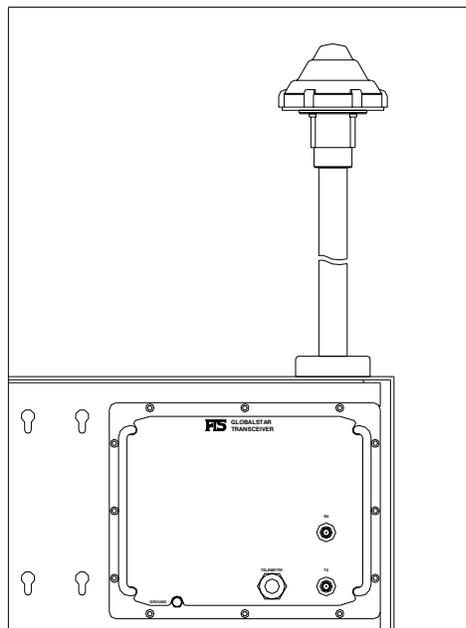

Figure 1. Fixed Site FTS Globalstar Transceiver
Three models of the FTS Globalstar Transceivers are available: Fixed Site (FS), Quick Deploy (QD) and GS-4000. Fixed Site transceivers are housed in a standard FTS keyhole mounting, waterproof module and mount directly in an FTS cabinet. Normally the antenna mounts directly to the enclosure lid; however, to prevent snow from accumulating on the antenna, the antenna can be mounted on top of an optional extension post (see Figure 1).
Perform the following steps to retrofit an existing Fixed Site Station with a Globalstar transceiver (see Figure 1):